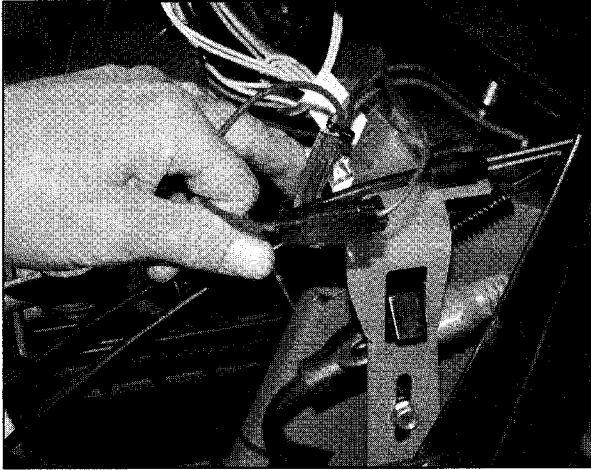

Fig. 35
3. Test for continuity between the inverter case and the engine frame, **Fig. 35**.